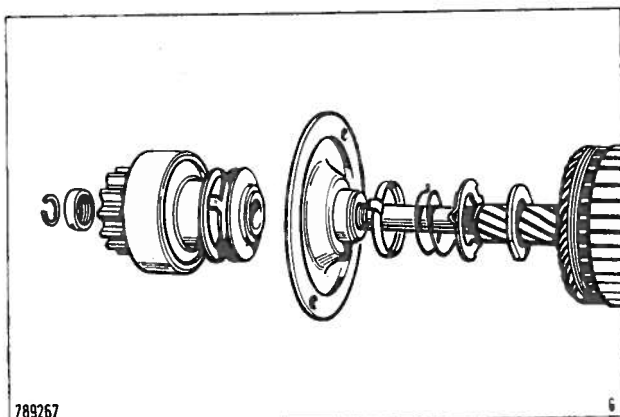

Fig. 91 Fitment of brake fibre washer, spring assembly and intermediate plate
1. Fit the brake fibre washer to the armature, followed by the spring assembly and intermediate plate Fig. 91.